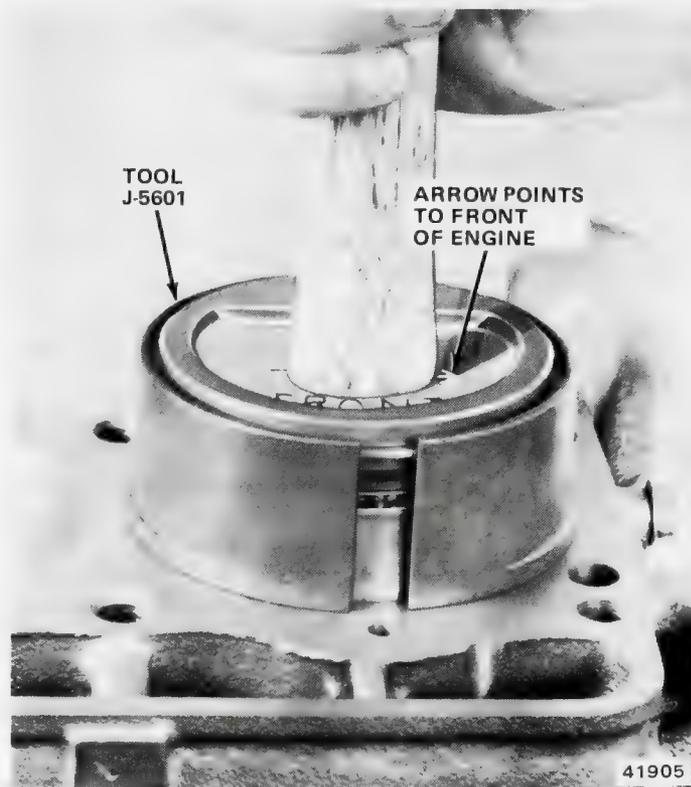

Fig. 1B-100 Piston Installation
- (1) Clean cylinder bores thoroughly. Apply light film of clean engine oil to bores with clean, lint-free cloth.
- (2) Install piston rings on pistons. Refer to Piston Rings for sequence.
- (3) Lubricate piston and rings with clean engine oil.
- (4) Use Piston Ring Compressor Tool J-5601 to install connecting rod and piston assemblies from top of cylinder bores (fig. 1B-100).